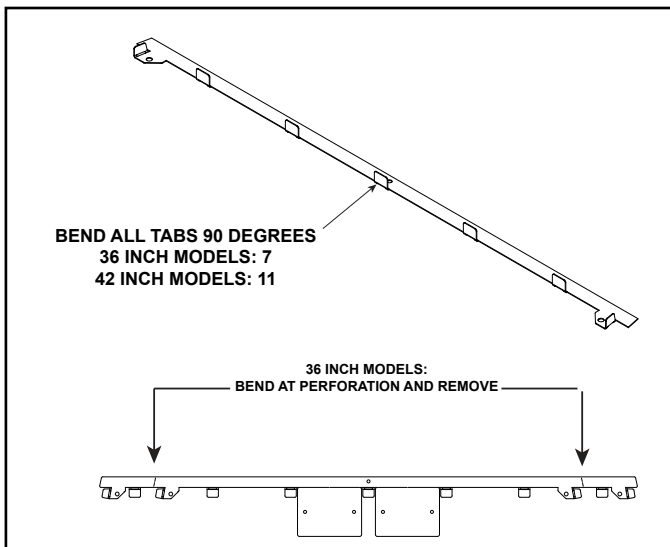

Figure 11.11 Back Refractory Support
2. Bend all tabs on back refractory support as shown in Figure 11.11.